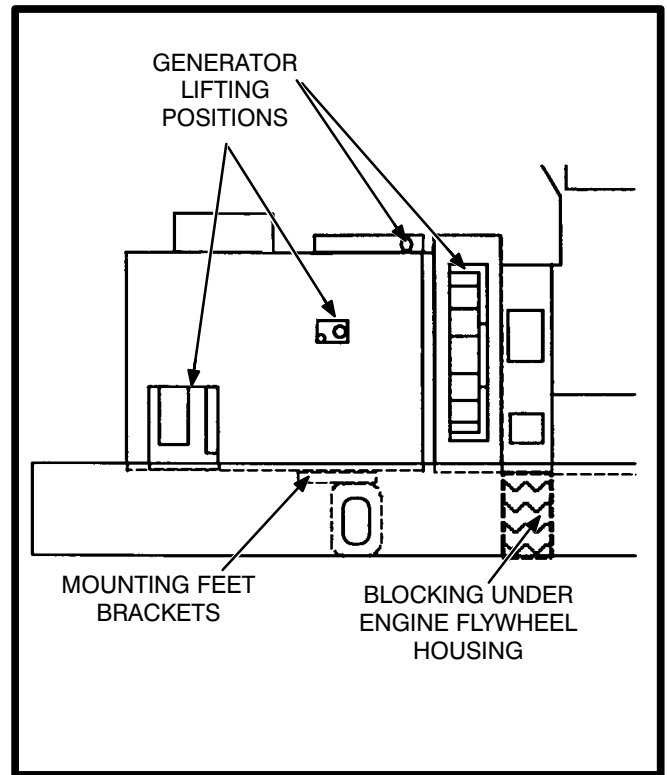

FIGURE 5-9. GENERATOR LIFTING POSITIONS
19. Using an adequate lifting device, lift the generator (at lifting eyes provided, and main stator housing) until the mounting feet brackets are clear of the frame member (see Figures 5-9 and 5-10).